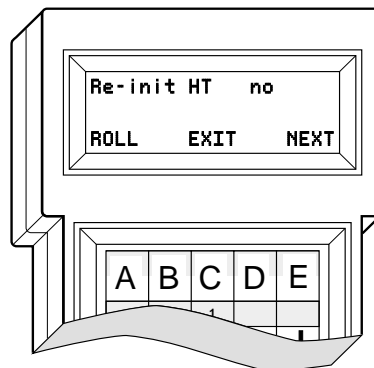

Figure 10. HHT Setup Display
1. Plug the HHT into the DIAG. connector. Enable the setup mode by pressing the **SHIFT**, **CTRL** and **SPACE** keys in sequence. The display shown in **Figure 10** appears.